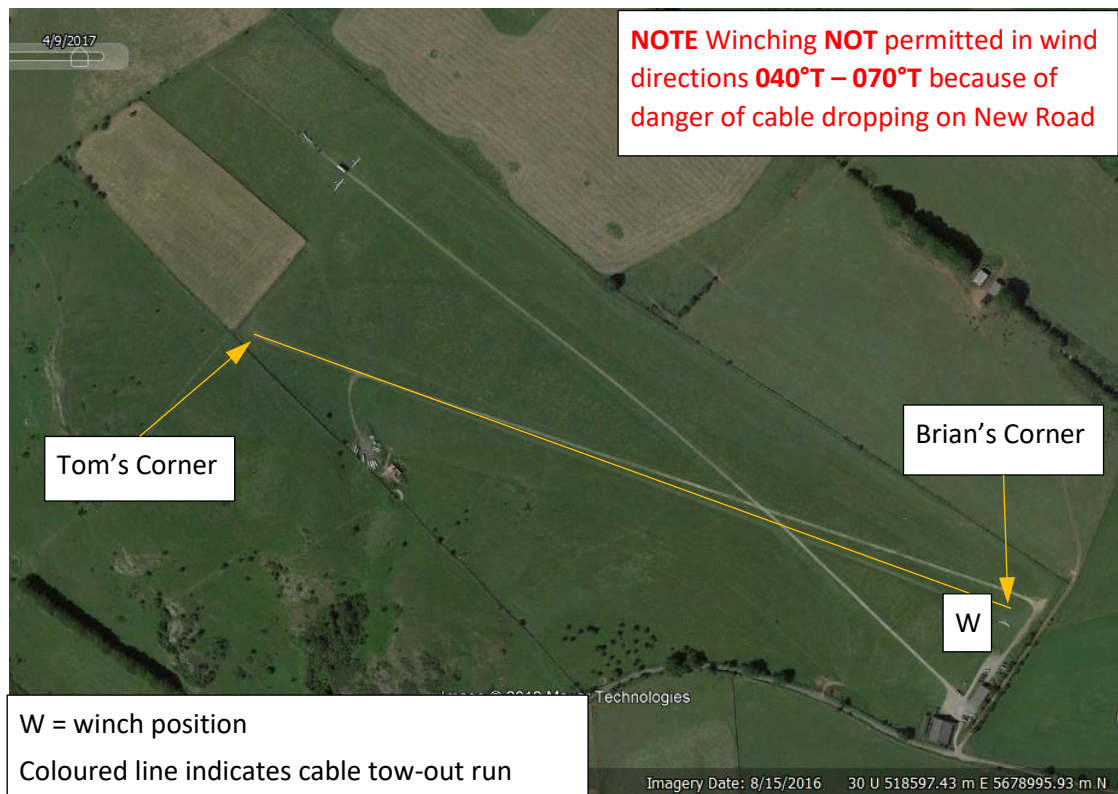

**Figure 4 Plateau (NW) Launch Point and Winch Positions**
- Towards the west end of the main landing strip (R31/R13) with the launch bus located on the track (see Figure 4).